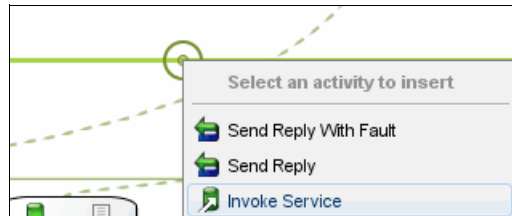

Figure 10-67 Insert web service invoke activity
- Click the `CommonErrorHandlerWS_Out` endpoint, and drag it to the location. Select **Invoke Service**, as shown in Figure 10-67.